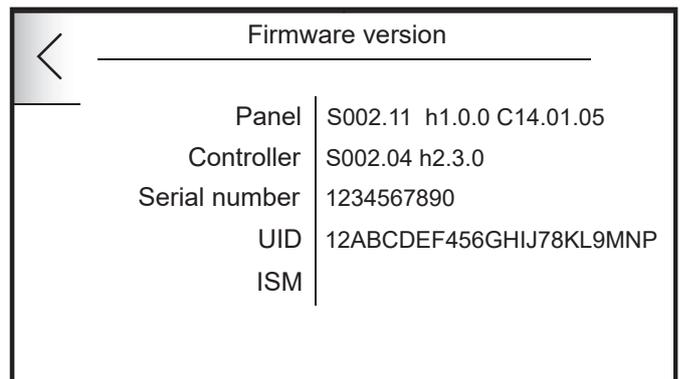

Figure D-4: Firmware version and UID
4. Then tap 'FIRMWARE VERSION'. Refer to Figure D-4.